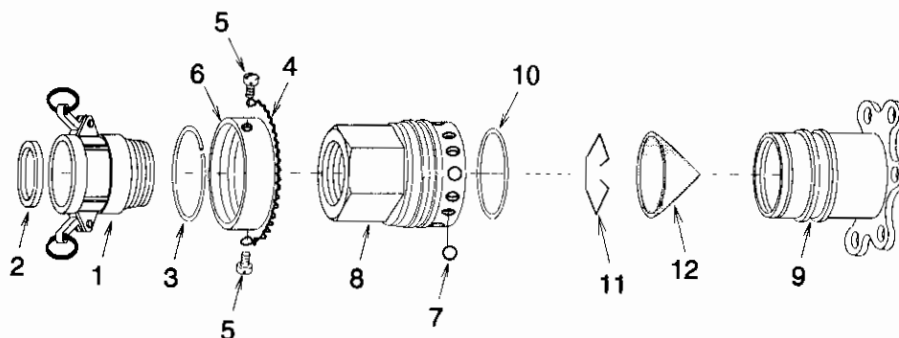

Figure 4-3. Camlock Disconnect Assembly Disassembly
- (3) Wash all metal parts with dry cleaning solvent.
- (4) Dry thoroughly with clean, lint free cloth.
- d. Assembly See figure 4-3.